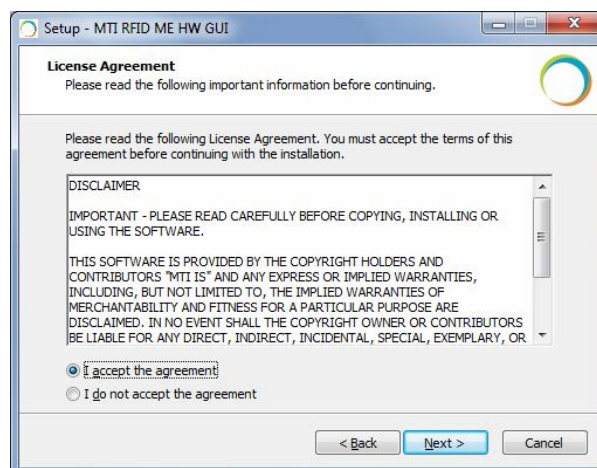

Figure 2
- 2.1.2. Read the license agreement and select “I accept the agreement” as shown in Figure 2 to accept.